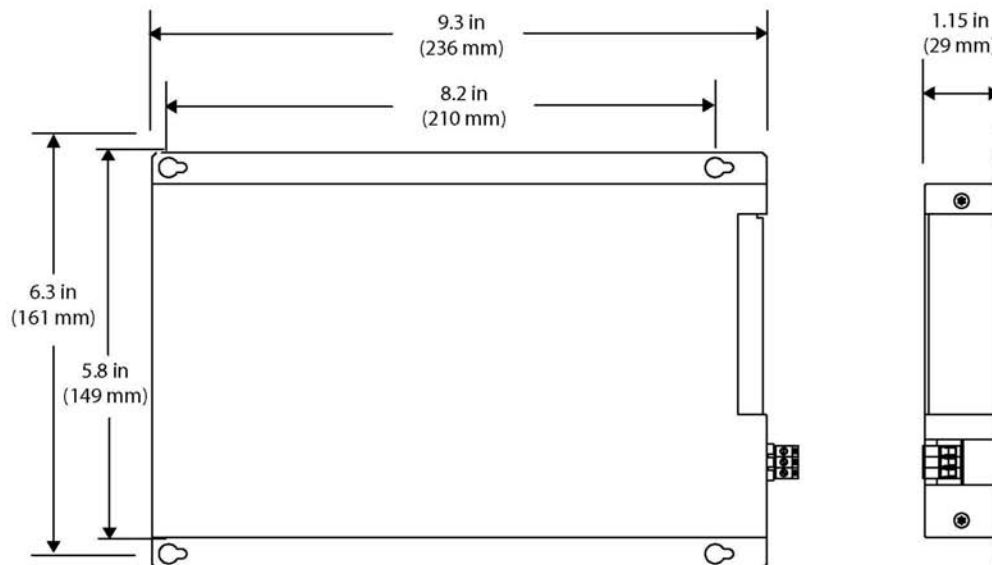

Figure 5. 501R Rack Card Enclosure Mounting Data
- 3) Determine where the module will be installed, and ensure that there is adequate space for making the various cable connections and for reading the diagnostic LEDs. See Figure 5.